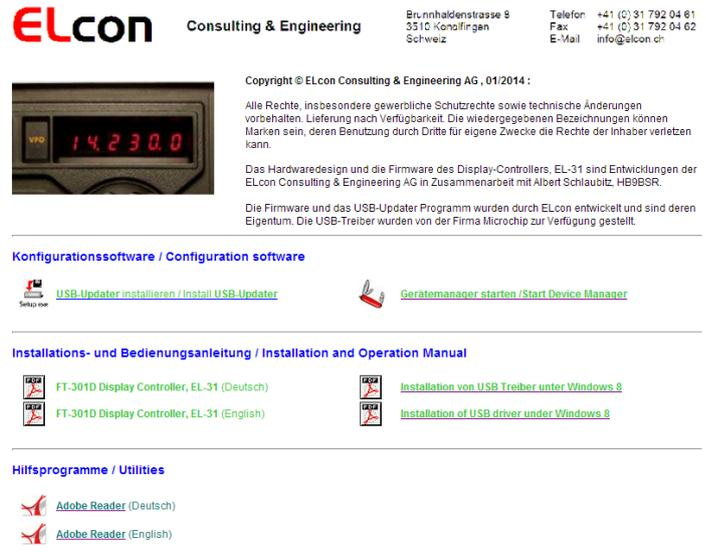

Figure 25
- From the CD or USB stick open the file "... \ USB-Loader Setup \ cd.htm" with an Internet browser → the window appears as shown in Figure 25.
**USB-Updater** installieren / install **USB-Updater** (see Figure 25).
For some operating systems, the installation of unsigned drivers will be blocked to protect the user. Especially on Windows 8 /8.1 the drivers need to be installed in a special manner. With the command in Command Prompt "Shutdown.exe / r / o" Windows 8 will launch directly to the boot menu. Further details are on the website (see Figure 25).
The Device Manager can be started directly from the Web page (see Figure 25).